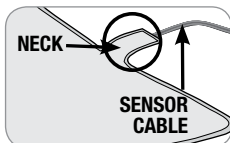

Fig. 25 - Neck of sensor pad
2. Make sure sensor pad air intake (“neck” of over-mattress sensor, chair sensor or stretcher sensor) is clear and not blocked (Fig. 25). Air must flow freely in and out of sensor for alarm to function. Make sure liquid does not enter at “neck” of sensor pad, as this will damage sensor. If needed, use an incontinence pad to protect sensor from urine or other liquids.